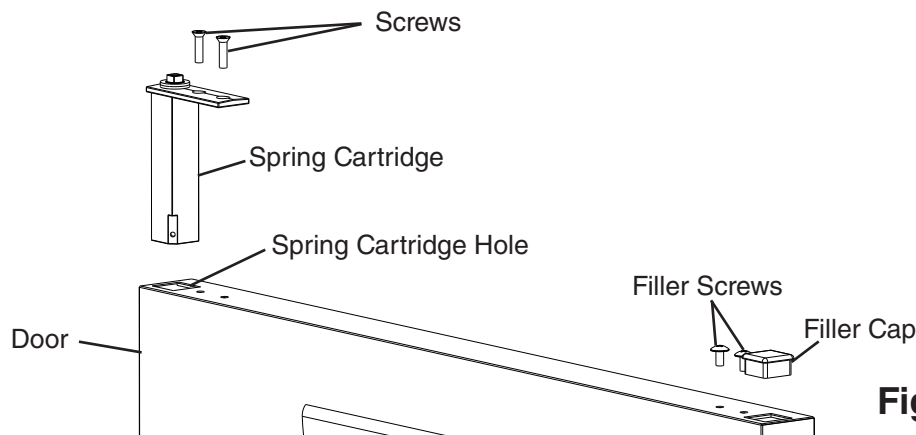

Fig. 16
- 9) Clear foam from the spring cartridge hole to allow for spring cartridge installation. See Fig. 16. Install the spring cartridge in its new location. Reinstall the filler cap and filler screws on the opposite side of the door.